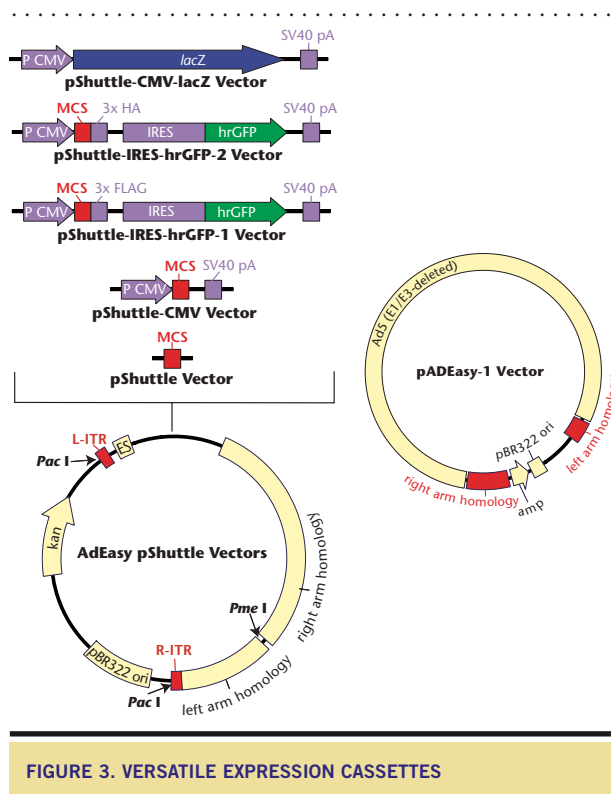

FIGURE 3. VERSATILE EXPRESSION CASSETTES
The AdEasy system offers flexibility in the pShuttle cloning vector. The basic pShuttle vector contains all of the regions of homology required to recombine with the adenoviral backbone. The pShuttle-CMV vector has the same regions of homology but also has the high-level constitutive CMV promoter and the SV40 poly(A) tail. We also offer pShuttle-CMV vectors with the Vitality[®] hrGFP-reporter (Figure 3).